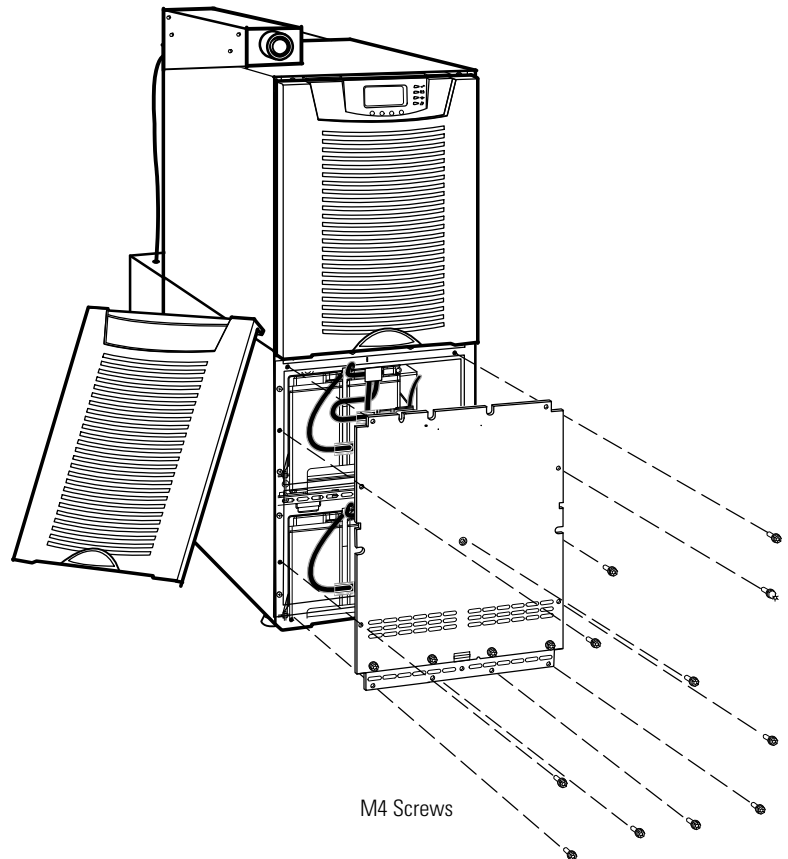

Figure 43. Removing the Battery Cover Panel
6. The battery cover panel is made up of two parts joined together with four screws. Remove both parts of the panel at the same time by removing the 10 M4 screws on the edges of the panel and the M4 screw in the middle of the panel (see Figure 43).